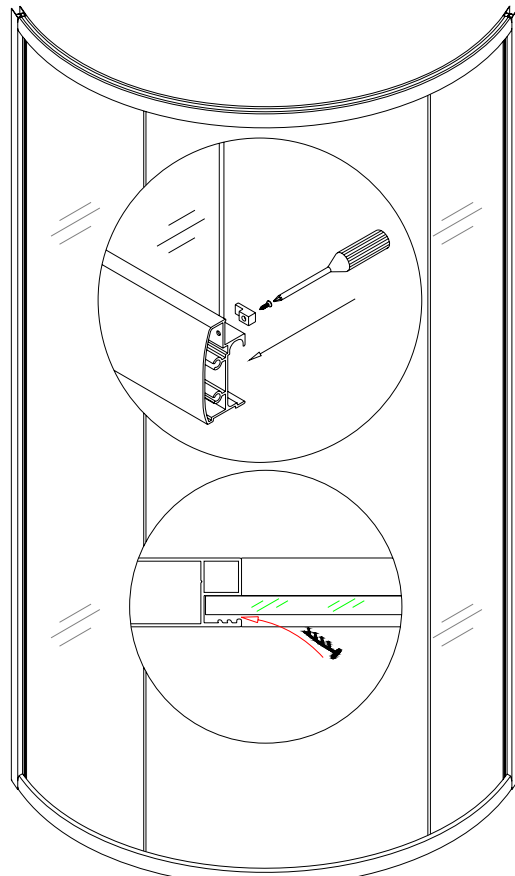

Fig 4
2. Push the Stationary glass (4 and 6) into Glass profile groove, and then fasten it by Glass holder (14) to the Guide rail (fig 4).
3. Secure another side of Stationary glass inside of the Glass profile groove with Single side plastic strip (9). Push Single side plastic strip between glass and side of groove (fig 4).